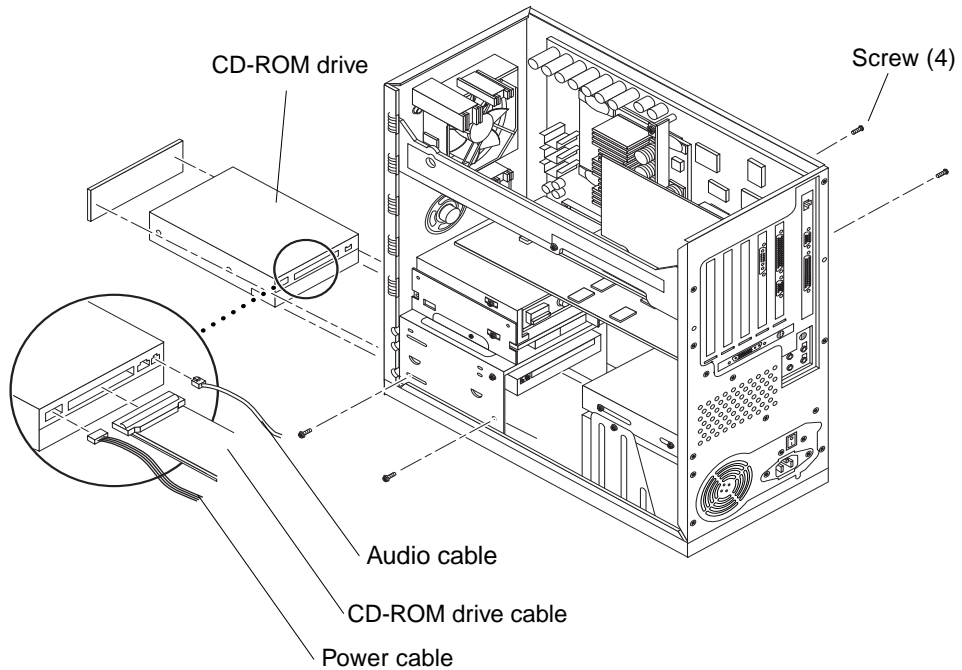

FIGURE 7-5 Removing and Replacing a CD-ROM Drive
2. **Remove the CD-ROM drive as follows (FIGURE 7-5):**
1. **Replace the CD-ROM drive as follows (FIGURE 7-5):**